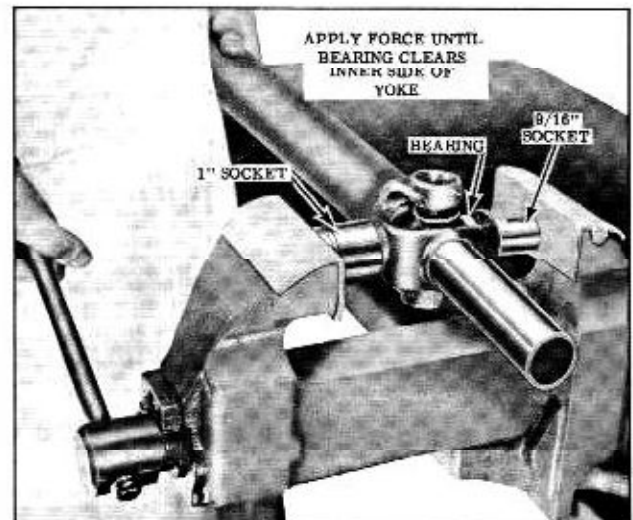

Fig. 6-6 Pressing Bearing From Yoke (Spicer)
2. Press the bearings from the yoke as shown in Fig. 6-6. Continue pressing until bearing which is pushed by the 9/16" socket clears inner side of yoke.